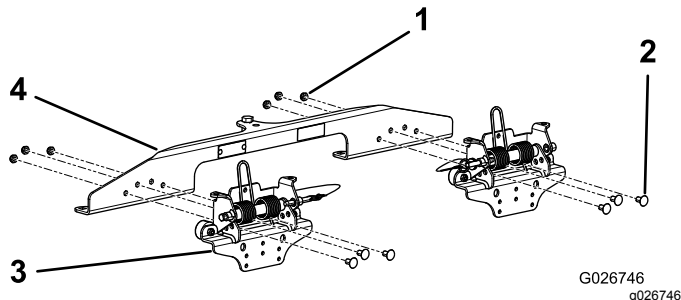

Figure 2
1. Align the holes in each of the spring bracket assemblies with the holes in the nail-drag bracket as shown in Figure 2.
2. Using 6 bolts and 6 locknuts, secure the spring bracket assemblies to the nail-drag bracket (Figure 2).